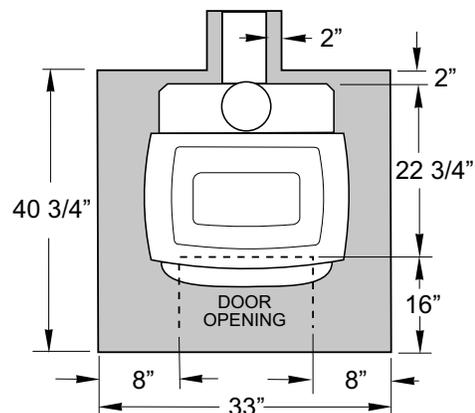

Figure 9. Floor Protection minimum dimensions, U.S.
**In the U.S.** floor protection must extend continuously forward from the **door opening** at least 16 in. and 8 in. from the sides of the **door opening**. Protection must also extend 2 in. under the chimney connector. This will result in a minimum floor protector 33" wide x 40 3/4" deep. See fig 9.